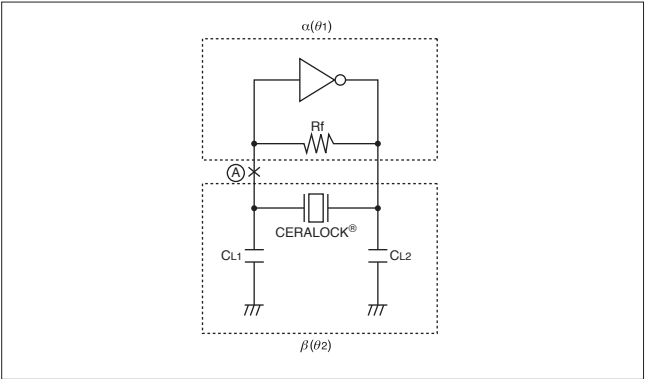
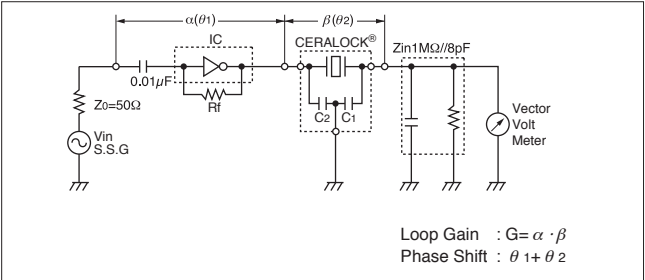
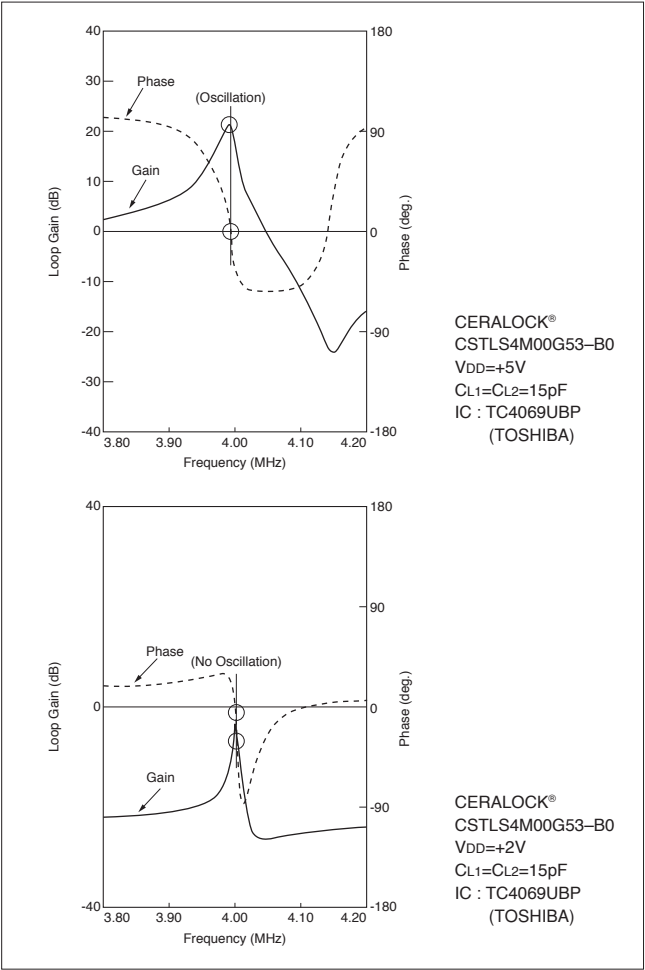

Fig. 2-8 Basic Oscillation Circuit with Inverters
Fig. 2-9 Measuring Circuit Network of Loop Gain and Phase Shift
Fig. 2-10 Measured Results of Loop Gain and Phase Shift
Fig. 2-8 shows the basic oscillation circuit with inverter. In an open loop circuit by cutting at point ①, it is possible to measure loop gain G and phase shift θ . Fig. 2-9 shows the actual measuring circuit, and an example of the measuring result is shown in Fig. 2-10.